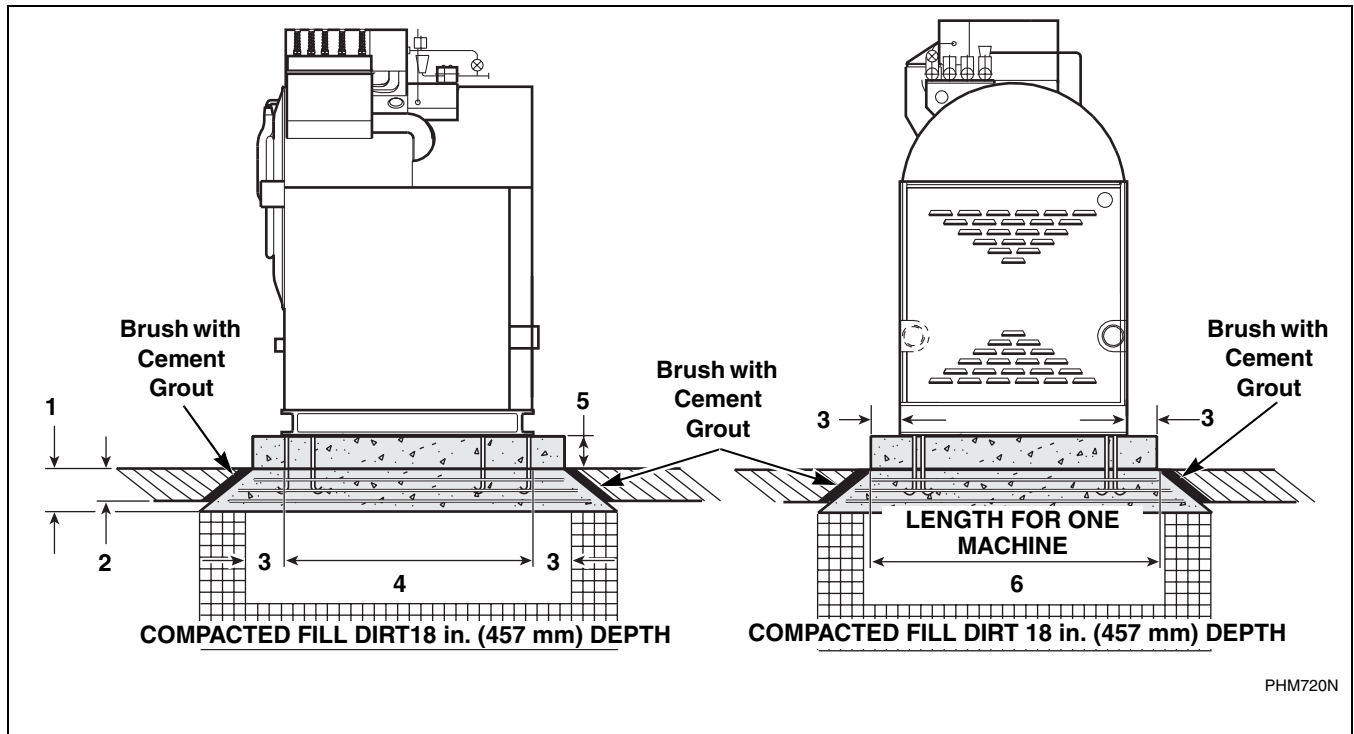

Figure 5
A concrete foundation and pad may be constructed to elevate the machines. Care must be exercised in the design of the foundation pad due to the force exerted by the machine during extract. This concrete base (recommended not to exceed 8 inches [20.32 cm]) must be poured, reinforced with rebar and tied to the existing 12 inch (30.48 cm) minimum floor. Refer to *Figure 5* and *Table 2*.
If the existing floor is not reinforced concrete at least 12 inches (305 mm) thick over a solid foundation, the following steps must be performed (refer to *Figure 5*):
**NOTE:** If installing expansion bolts into an elevated concrete foundation pad, the concrete foundation pad should extend a minimum of 9 inches (229 mm) for UW35 machines or 12 inches (305 mm) for UW60 - 150 machines out from the machine base on all sides. Refer to *Figure 5*.